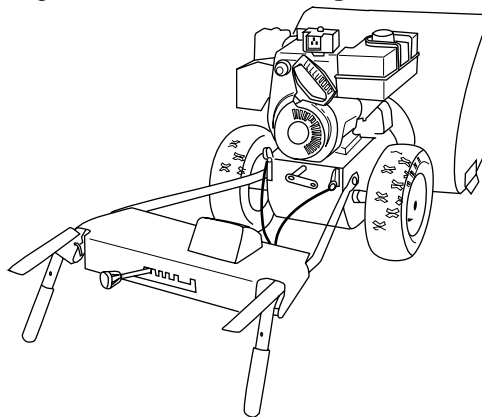

Figure 8
9. Hold the handle assembly up to the bottom of the snow thrower frame and thread the hex bolt into the lower hole in snow thrower frame. Do not tighten at this time. See Figure 8.